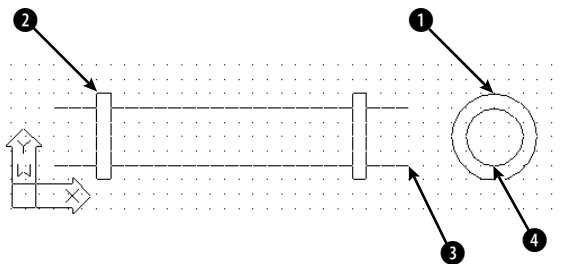

**Figure 6-3:** A pipe with cross-section.
4. At the **Specify a point or [Hor/Ver/Ang/Bisect/Offset]:** prompt, choose point ❶, shown in Figure 6-3.
5. At the **Specify through point:** prompt, choose point ❷, shown in Figure 6-3.
8. At the Specify start point: prompt, choose point ③, shown in Figure 6-3.
9. At the Specify through point: prompt, choose point ④, shown in Figure 6-3. Press Enter to end the command.